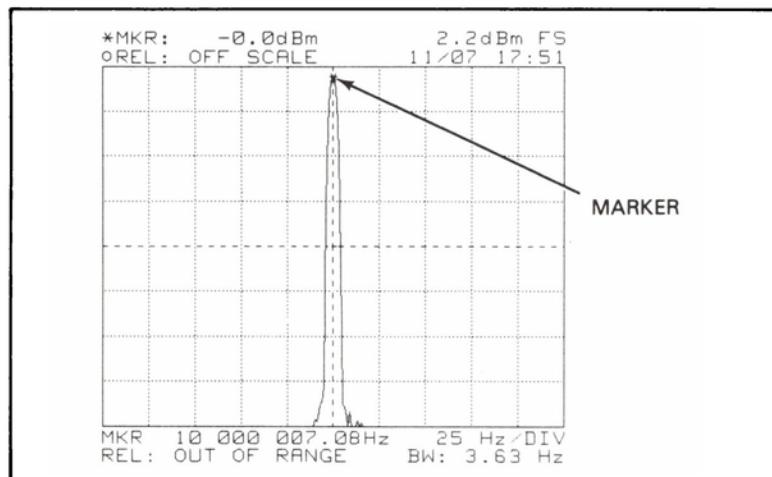

Figure 7-9. Image Rejection Test Adjustments
- Set the -hp- 3582A marker to the peak of the signal (See Figure 7-9).